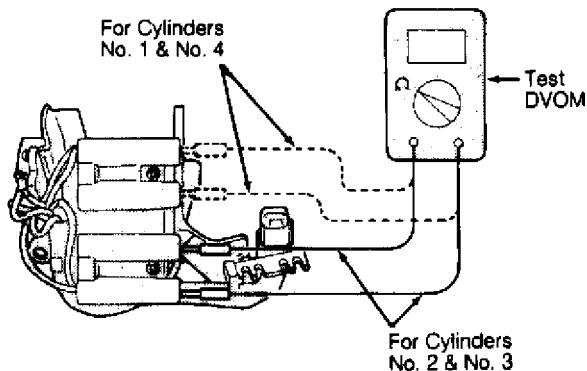

Fig. 3: Testing Ignition Coil Secondary Resistance (1.6L)
2) Disconnect ignition coil connector. Measure secondary coil resistance between coil towers for cylinders No. 1 and 4 and between coil towers for cylinders No. 2 and 3. See Fig. 3. Primary and secondary coil resistance should be within specification. See IGNITION COIL RESISTANCE (4-CYLINDER) table.